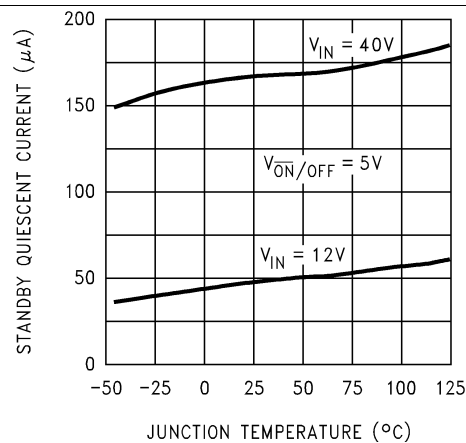

Figure 6. Standby Quiescent Current
- (1) All limits specified at room temperature TYP and MAX. All room temperature limits are 100% production tested. All limits at temperature extremes are specified through correlation using standard Statistical Quality Control (SQC) methods. All limits are used to calculate Average Outgoing Quality Level.
- (2) The oscillator frequency reduces to approximately 18 kHz in the event of an output short or an overload which causes the regulated output voltage to drop approximately 40% from the nominal output voltage. This self protection feature lowers the average power dissipation of the IC by lowering the minimum duty cycle from 5% down to approximately 2% (see Figure 6).
- (3) Output pin sourcing current. No diode, inductor or capacitor connected to output pin.
- (4) Feedback pin removed from output and connected to 0 V.
- (5) Feedback pin removed from output and connected to 12 V for the adjustable, 3.3-V, and 5-V versions, and 25 V for the 12-V and 15-V versions, to force the output transistor OFF.
- (6) $V_{IN} = 40\text{ V}$ (60 V for high voltage version).